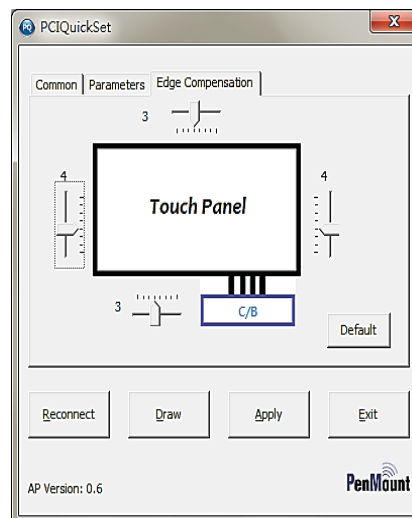

Fig.42
- Edge Compensation: This feature allows the user to adjust edge compensation. (Fig.42)